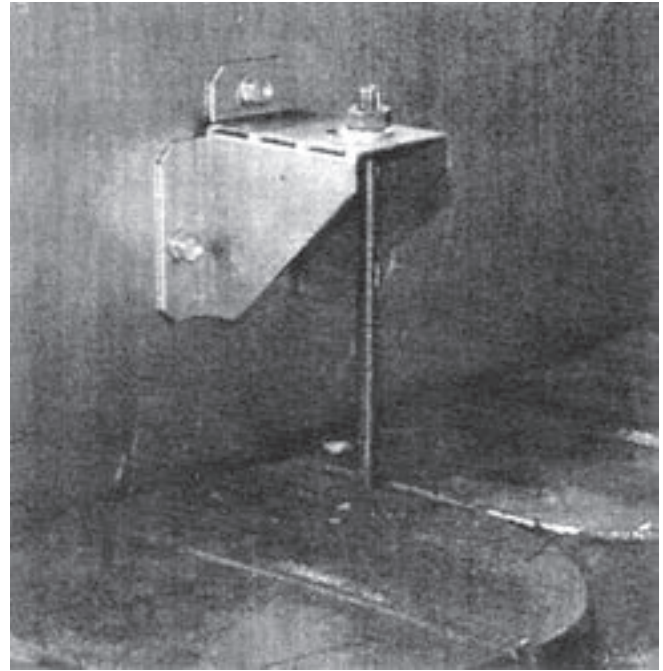

Figure 18: Right Side Canopy Intermediate Bracket
- d. Secure canopy right side bracket(s) with 1/4" - 20 x 5" lg. carriage bolts. Insert head of carriage bolt between canopy body and casting. Slide carriage bolt into slot provided between castings. Lower carriage bolt until threaded end will pass through hole in bracket. Secure canopy with 1/4" flat washers, lock washers and brass nuts. See Figure 18.